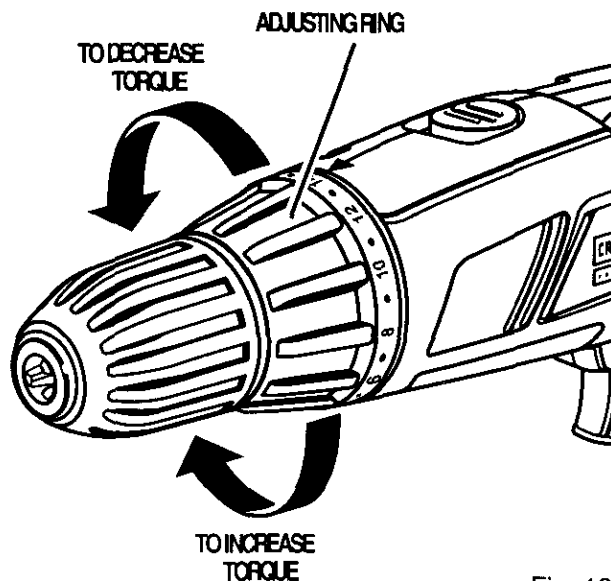

Fig. 12
- Identify the twenty four torque indicator settings located on the front of your drill. See Figure 12.